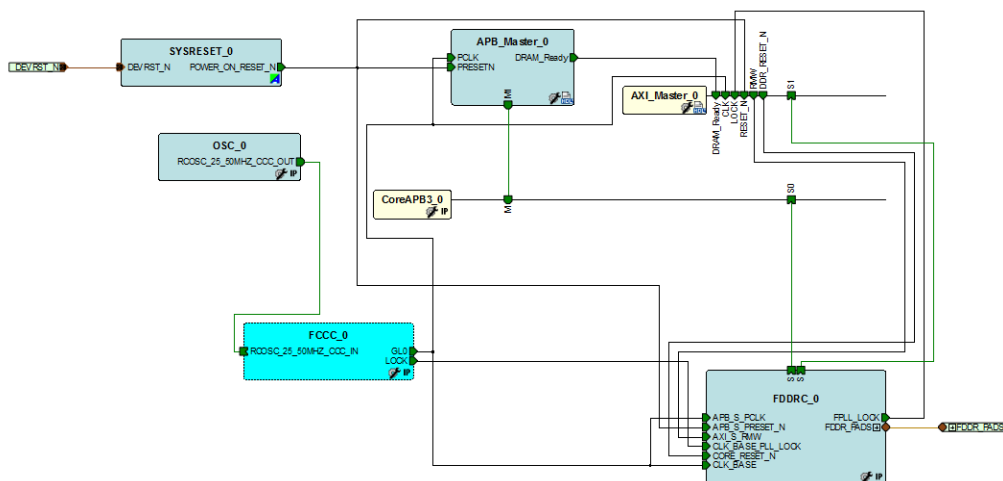

Figure 2-16 • SmartDesign Canvas
- Make the other connections in the SmartDesign canvas, as shown in Figure 2-16.